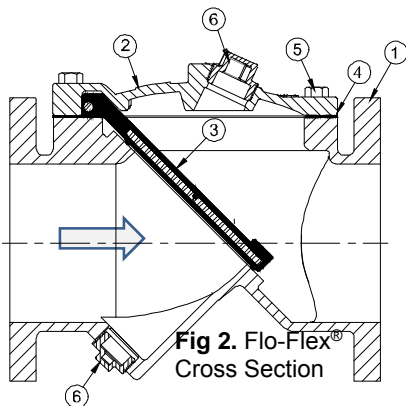

FIG 2. Flo-Flex®
The Flomatic® Flo-Flex® Swing Check Valve is constructed of rugged Ductile Iron with a rubber encapsulated valve disc. The rubber coated valve disc is the only moving part assuring long life with minimal maintenance. The general details of construction are illustrated in Fig. 2. The body (1) is flanged for connection to the pipeline with an access cover (2). The disc (3) is retained by the cover.
<ol style="list-style-type: none"> Relieve pressure and drain the pipeline. Refer to Figure 2 on page 2. Remove the cover bolts (5) on the top cover. Pry cover (2) loose and lift off valve body. 12" and larger valves have tapped holes in cover for lifting eyes. Remove disc (3) and inspect for cracks, tears or damage in rubber sealing surface. Clean and inspect parts. Replace worn parts as necessary and lubricate parts with FDA/NSF grease such as "Super Lube". 	<p>All parts must be cleaned. Gasket surfaces should be cleaned with a stiff wire brush in the direction of the serrations or machine marks. Worn parts, gaskets and seals should be replaced during reassembly.</p> <ol style="list-style-type: none"> Lay disc (3) over seat with beaded seating surface directed down. Lay cover gasket (4) and cover (2) over bolt holes and disc hinge. Insert lubricated bolts (5) noting that the bolts in the hinge area are longer than the other cover bolts. Cover bolts should be tightened to the specifications shown in Table 2 (next page) during re-assembly.